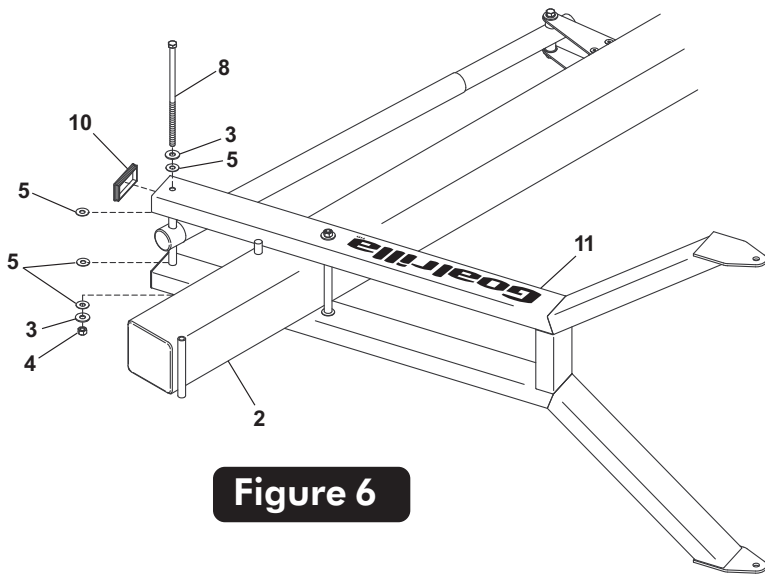

Figure 6
6. Secure Actuator (#16) to Lower Arm (#11) using one bolt (#8), two flat washers (#3), four plastic washers (#5) and one hex nut (#4). See Figure 6. Tighten both bolts (#8) securing Lower Arm (#11).